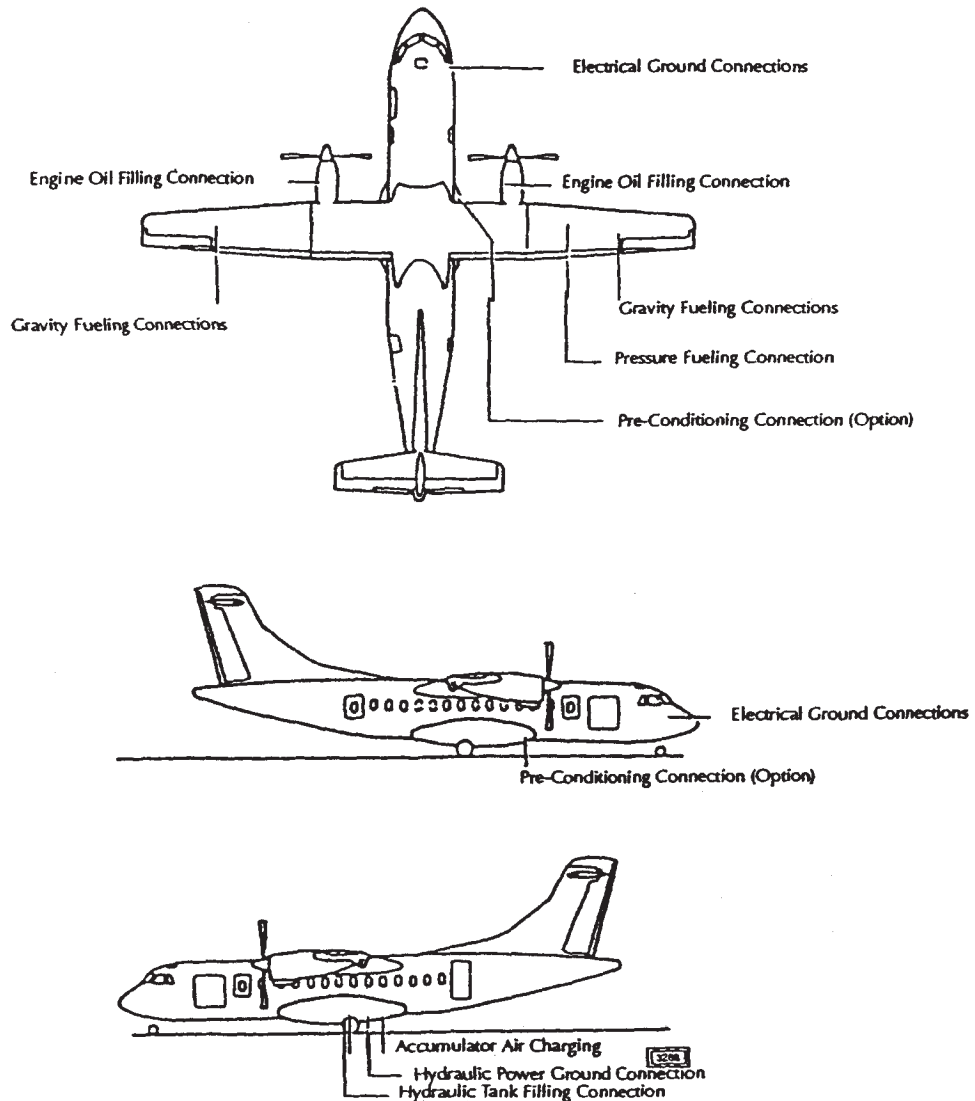

Figure 1
(1) Servicing points are illustrated on Figure 1.
- (1) Wing tank capacities are shown in Table 1. A single-point refuel/defuel coupling is located on the outboard leading edge of the right wing. The refuel/defuel panel is located in the right landing gear fairing. Overwing refueling capability is provided by tank filler receptacle on the top outboard end of the left and right wing. Refer to figure 1. Fuel must conform to the specifications below.
- (2) The following table shows usable fuel tank capacities and fuel weights at sea level and standard temperature and pressure.